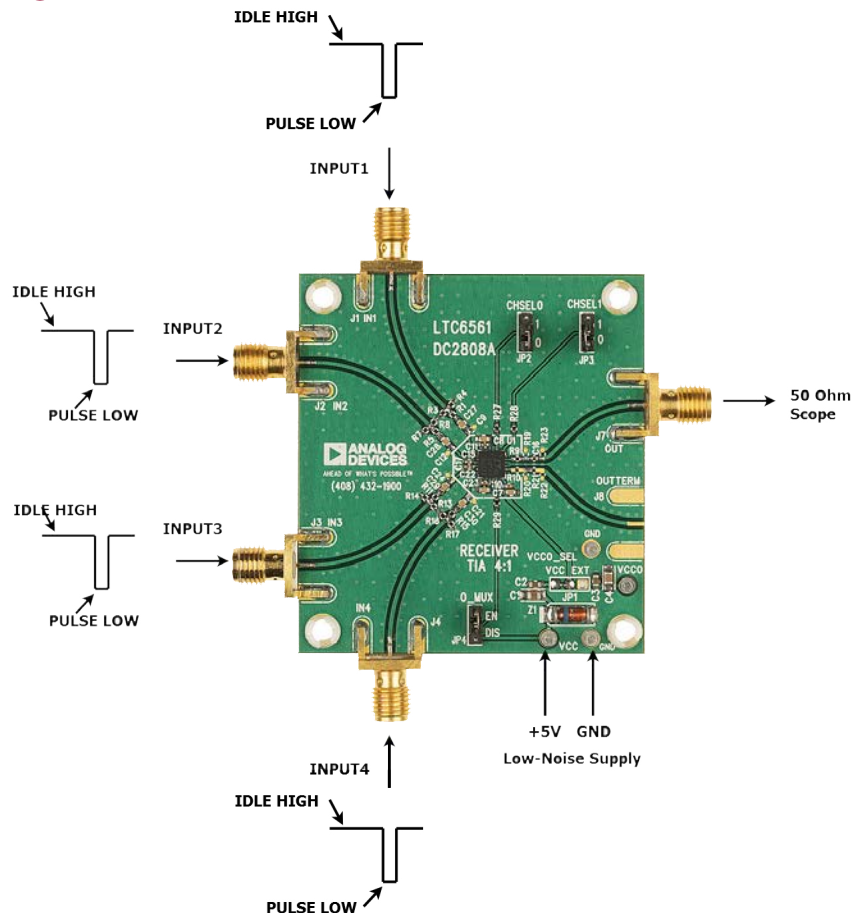

Figure 1. Connection Diagram
- 3) Connect a 5V low-noise power supply shown in Figure 1. VCCO is hardwired to VCC by default.